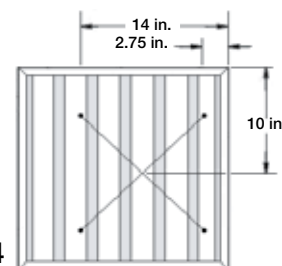

Fig. 24
- For 20 in. (500 mm) wide filters, position the grid as shown in Fig. 24 and 25. Average two measurements.